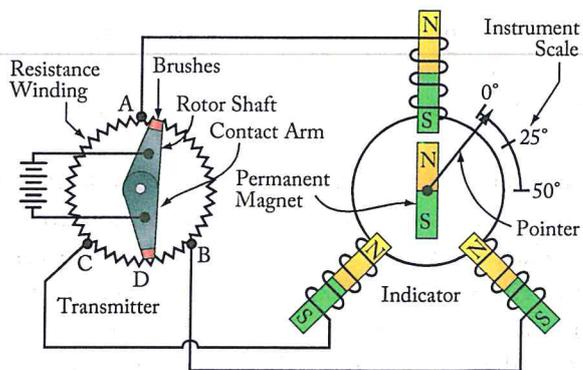

Figure 3-7. A schematic diagram of a DC selsyn synchro remote indicating system.
Aircraft with only a Direct Current (DC) electrical power system have no other choice but to use a DC selsyn system. Selsyn is an abbreviation for "self-synchronous". The DC selsyn system consists of a transmitter, an indicator, and connecting wires. The transmitter consists of a circular resistance winding and a rotatable contact arm. The rotatable contact arm turns on a shaft in the center of the resistance winding. The two ends of the arm are brushes and always touch the winding on opposite sides. [Figure 3-7] With position indicating systems, the shaft to which the contact arm is fastened protrudes through the end of transmitter housing and is attached to the unit whose position is to be transmitted (e.g., flaps or landing gear).
Referring to *Figure 3-7*, note that the resistance winding of the transmitter is tapped off in three fixed places, 120 degrees apart. These taps distribute current through the toroidal windings of the indicator motor. When current flows through these windings, a magnetic field is created. Like all magnetic fields, a definite north and south direction to the field exists. As the transmitter rotor shaft is turned, the voltage-supplying contact arm moves. Because it contacts the transmitter resistance winding in different positions, the resistance between the supply arm and the various tapoffs changes. This causes the voltage flowing through the tapoffs to change as the resistance of sections of the winding become larger or shorter. The result is that varied current is sent via the tapoffs to the three windings in the receiver indicator motor.